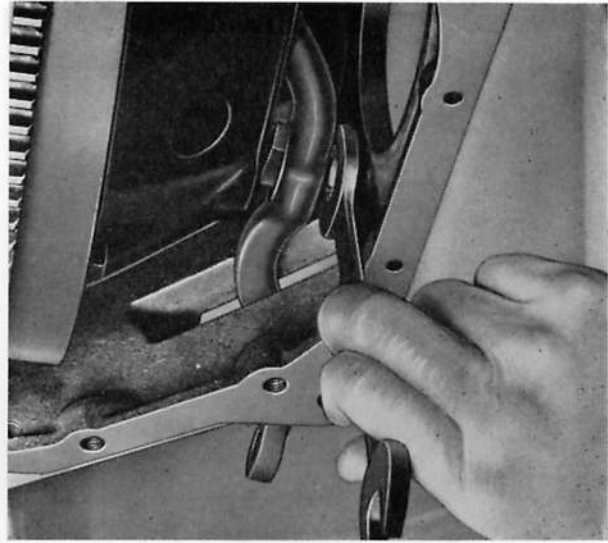

Fig. E.3. Unscrewing the clutch fork ball from the housing
6. Using a thin open-end wrench, unscrew the ball from the housing (Fig. E.3), and remove the fork.